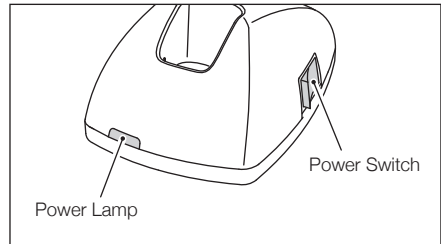

Fig. 5
3. Turn on the Power Switch. At this time, check that the power lamp lights up. (Fig. 5)